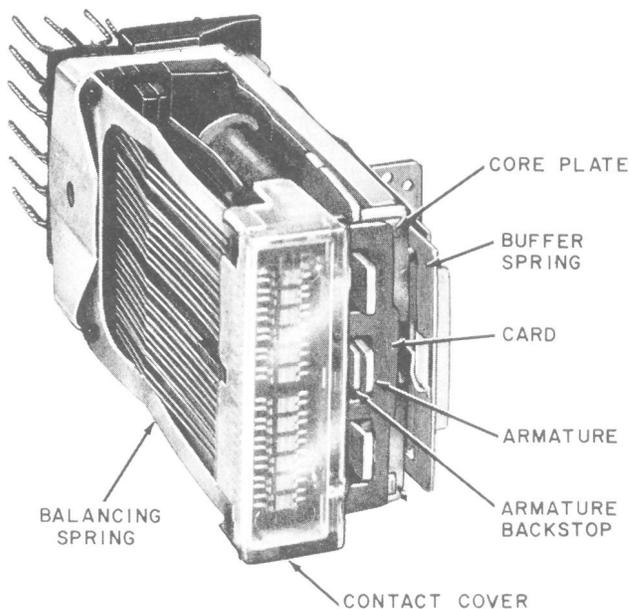
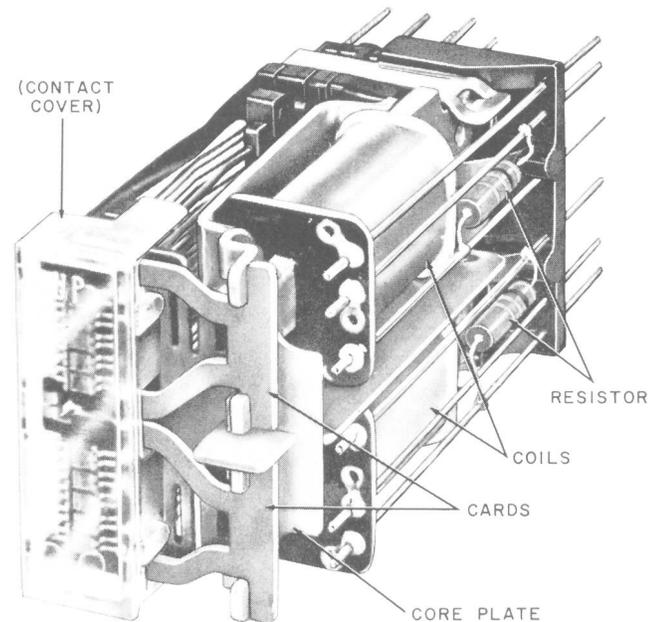

Fig. 1—AL-Type Relay, General View
Fig. 2—AM-Type Relay, General View
1.03 The AL-type relay, Fig. 1, has one coil and one set of contacts. The AM-type relay has two coils and two sets of contacts (Fig. 2). When testing AM-type relays, each coil and its associated set of contacts must meet the timing requirements